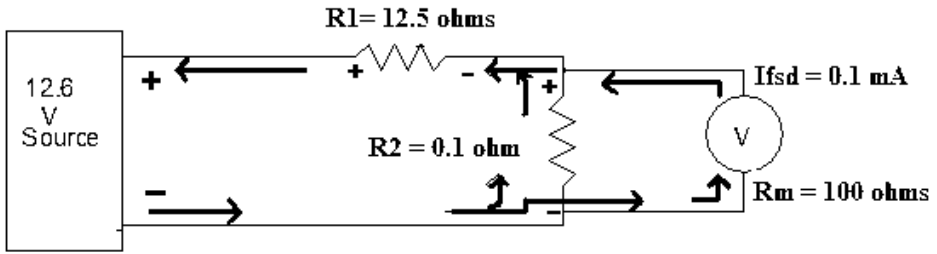

Figure 6-3 Current flow in a DC voltmeter.
2. For the voltmeter to read full scale, 1.0mA of current must go through the meter. This current is drawn from the voltage source (see Figure 6-3).